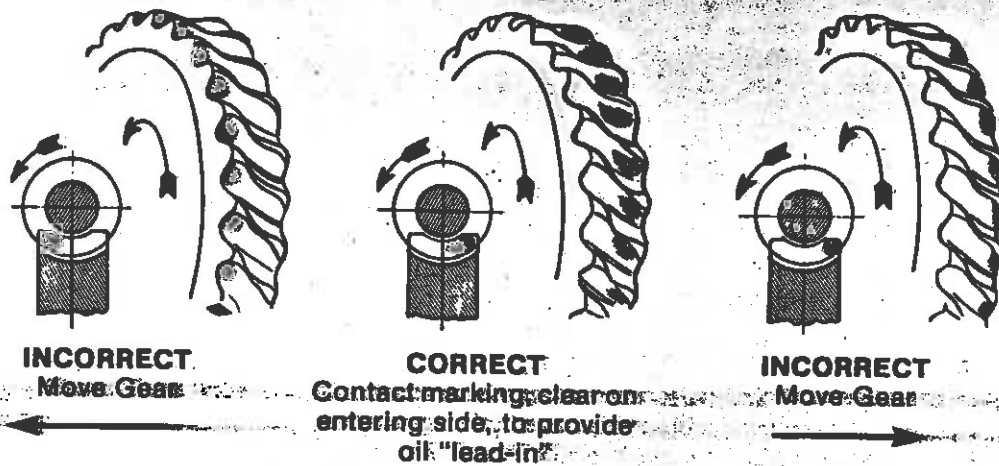

Figure 6 Gear Contact Patterns
- E. Use a rag to apply hand pressure to the output shaft and rotate the high speed shaft until output key is down. Return output shaft to original position by reversing rotation. Remove output shaft and seal cage to inspect contact. Compare with Figure 6. If contact is not correct move assembly in the direction shown in Figure 6 by adding shims to the side to which the arrow points after removing them from the opposite side. Repeat steps D and E until contact pattern is correct.